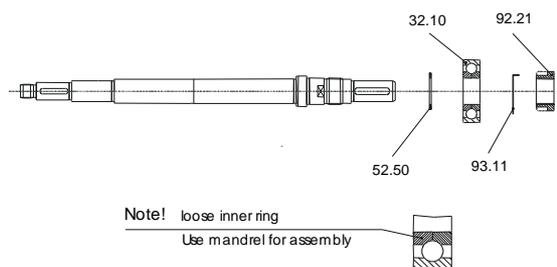

Fig. 7
12. Loosen shaft nut 92.21, remove lock washer 93.11 and withdraw bearing 32.10 and backing washer 52.50 (fig. 7).